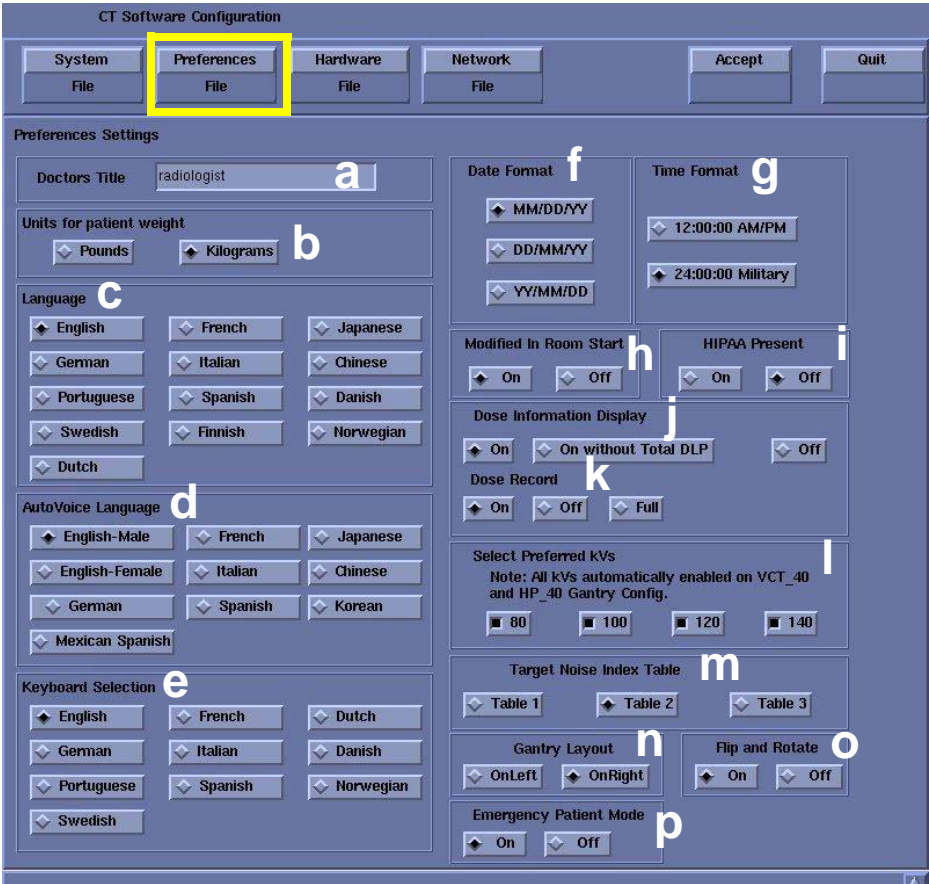

Figure 6-5 Preferences Setup Screen
6.) Click the **PREFERENCES** button to display the Preference Settings Screen as shown in Figure 6-5.